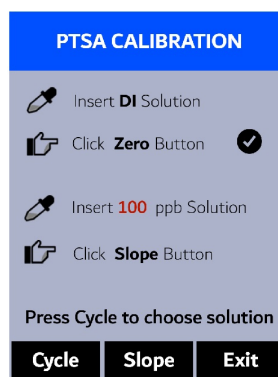

Figure 5.
6. If the calibration succeeds, a checkmark ( **✓** ) and instructions for the slope calibration will appear (Figure 5).